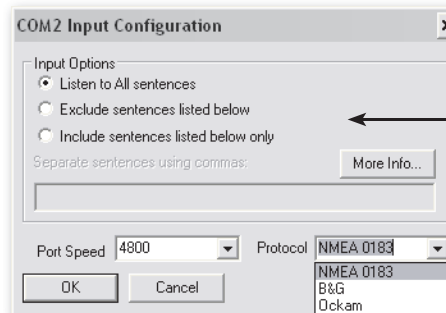

Figure 3.4 - **COM Port Input Configuration**
3. Select a COM port and then **Configure This Input Port...** beneath the list box to restrict the type of incoming data (see Figure 3.4).